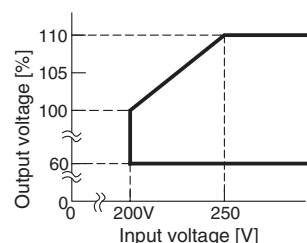

Fig.4.4 SNDBS700B Output Voltage Adjustment Range
■ The output adjustment range for DBS700B is shown in Fig.4.4.